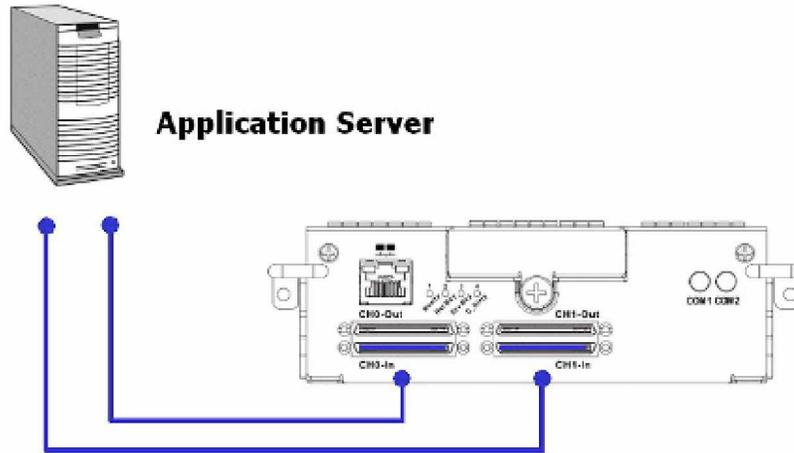

Figure 4-8: Single SCSI Controller Connected to a Single Host Computer
In the example shown in *Figure 4-8*, the SCSI ports are connected to two (2) adapters on a host computer to provide path redundancy. If one of the host channels becomes disconnected, or if the cable connecting one of the host ports to the host computer is damaged, data flow will be routed through the second path from the subsystem to the host computer.